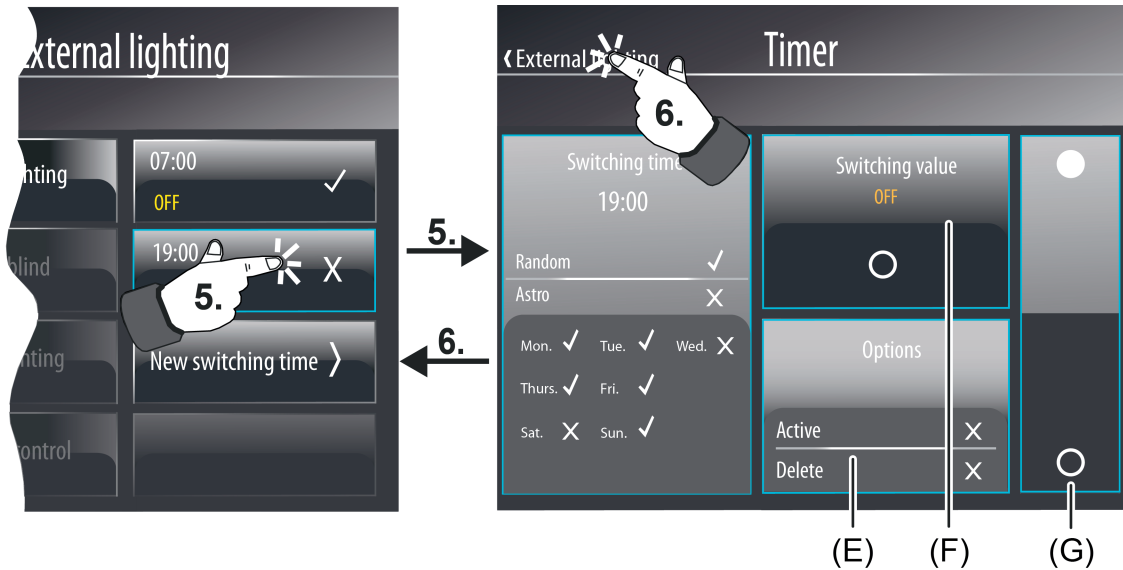

Figure 86: Example of a configuration page for switching times (right) - Data type timer switch channel "Switching"
With the data type "Switching (figure 86), for example, a display area with status text and icon (F) is visible and an operating area (G) for presetting the switching command by a rocker. With the data types "Scene" or "Operating mode switchover" status and operating elements are displayed in the same way.